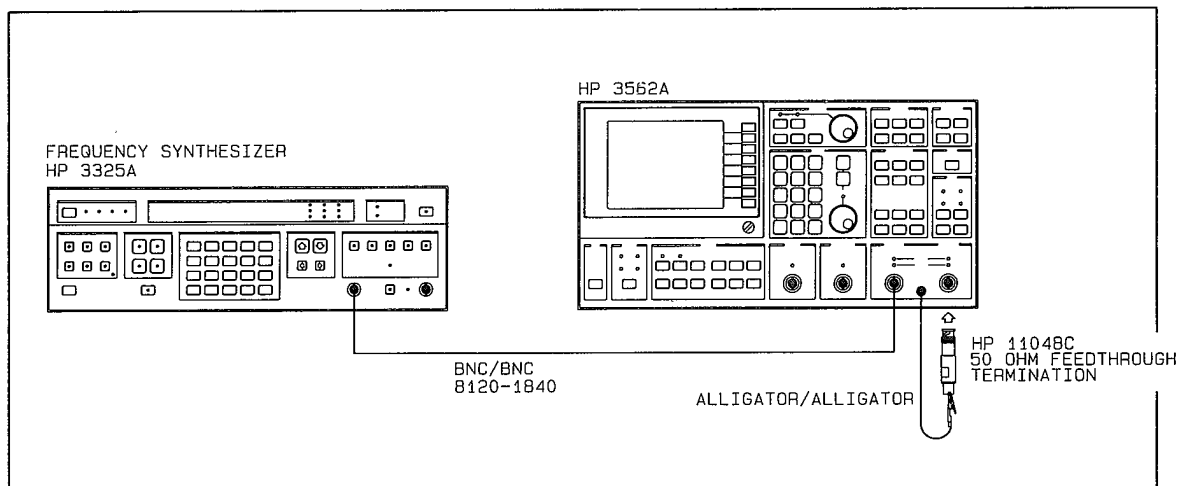

Figure 2-27 Cross Talk Channel 2 Test Setup
- G. Connect the test instruments as shown in figure 2-27.